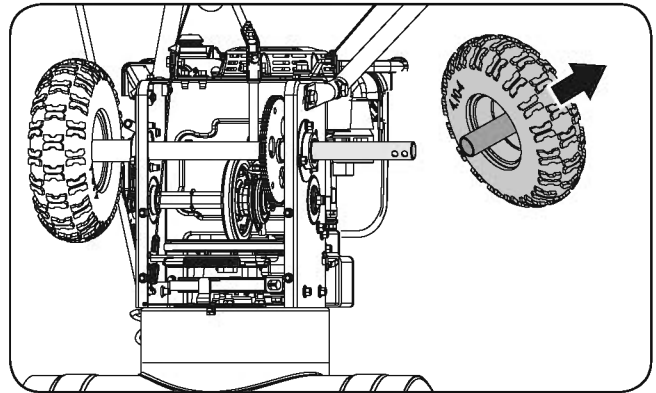

Figure 22a
- Remove the right-hand wheel by removing the axle lock pin. (See **Figure 22a**)